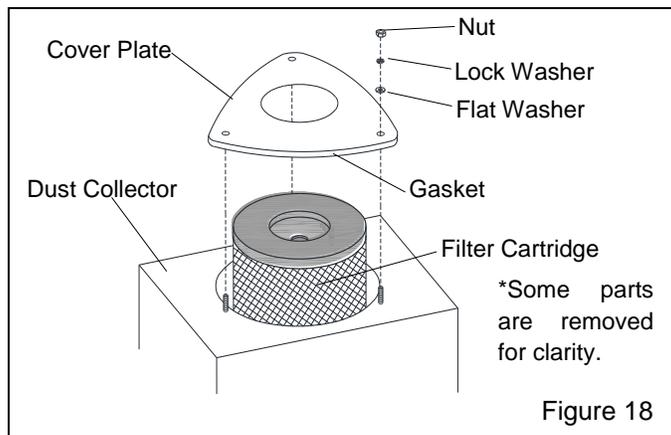

Figure 18
6.7 Filter Cartridge Replacement – Figures 18